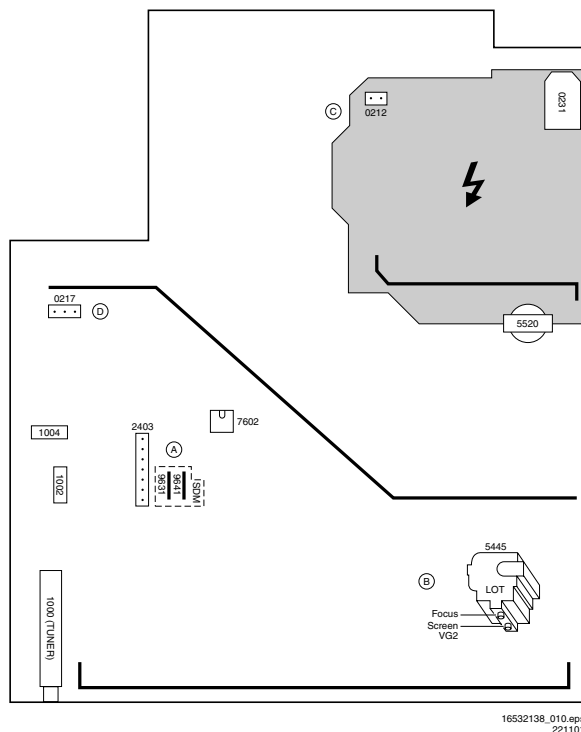

Figure 8-1
3. Adjust the FOCUS potentiometer (see Fig. 8-1) until the vertical lines at 2/3 from east and west, at the height of the centreline, are of minimum width without visible haze.